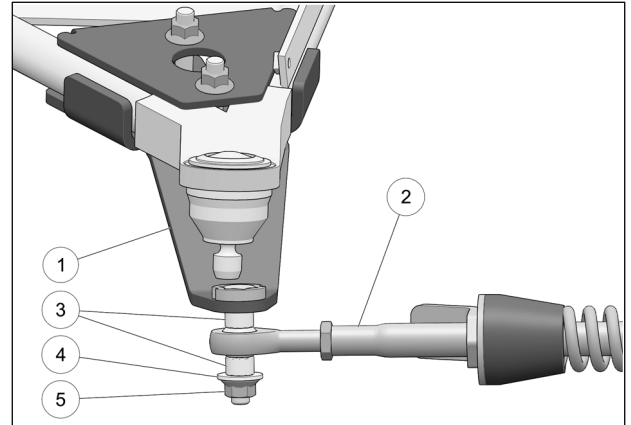

Fig. 20
8. Attach the stabilizing rod (2) to the anchor bracket (1), using the two spacer bushings (3), flat washer (4) and nut (5). Torque to 70 N•m [52 lb•ft]. Refer to Fig. 20